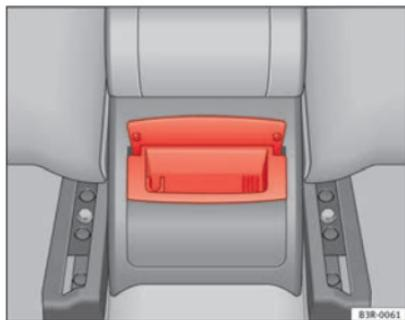

Fig. 122 Rear ashtray
- Take hold of the lid ⇒ Fig. 122 and lift out the ashtray.